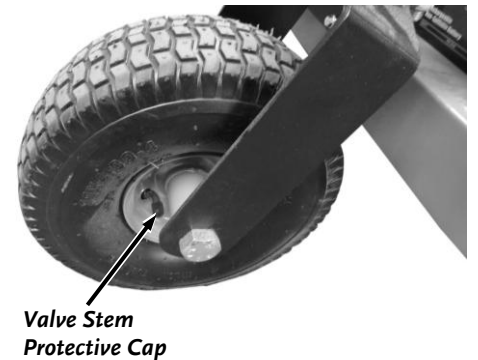

Figure 24
1. Remove the Valve Stem Protective Cap (**Figure 24**) and check the tire pressure with a Tire Pressure Gauge.
Note: *Figure 24 shows the fixed rear Wheels. Use the same procedure for the front Caster Wheels.*
Note: Close the Fuel Shut-Off Valve on the Pro XL60TF Model when transporting or storing the DR TOW-BEHIND FINISH MOWER (**Figure 24**).